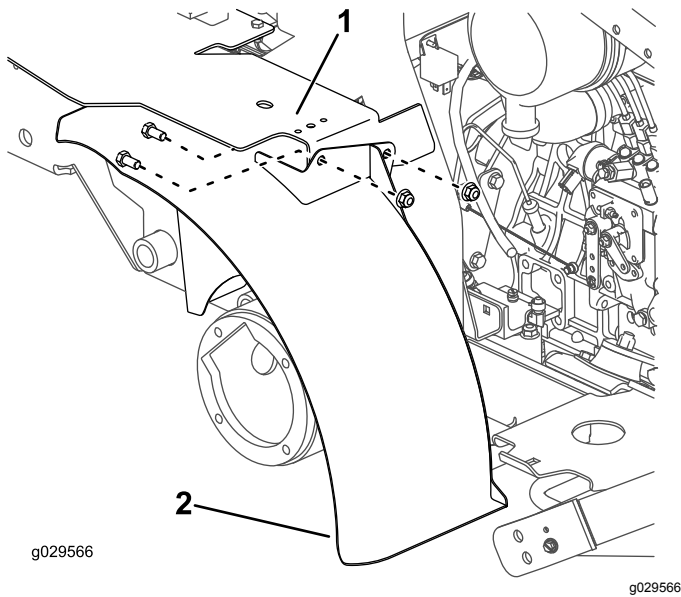

Figure 39
6. Loosely mount the bracket on the top of the left fender to the fuel-tank bracket with 2 bolts (3/8 x 3/4 inch) and 2 nuts (3/8 inch) as shown in Figure 39.